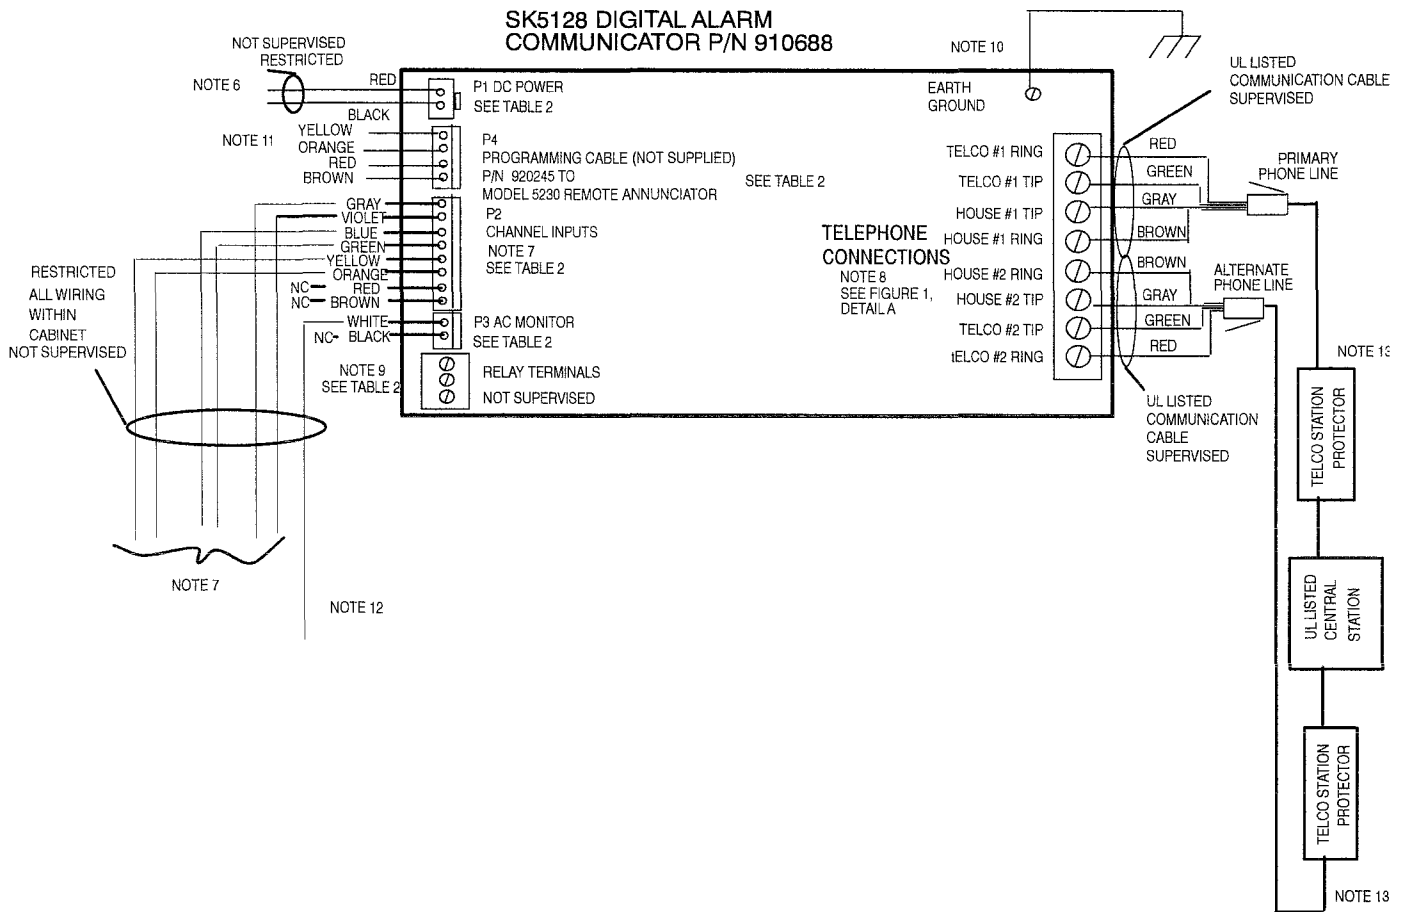

Figure 3. Typical SK5128 Module wiring application.
6. Connect wiring to 5128 Slave Communicator circuit board (see Figure 3).